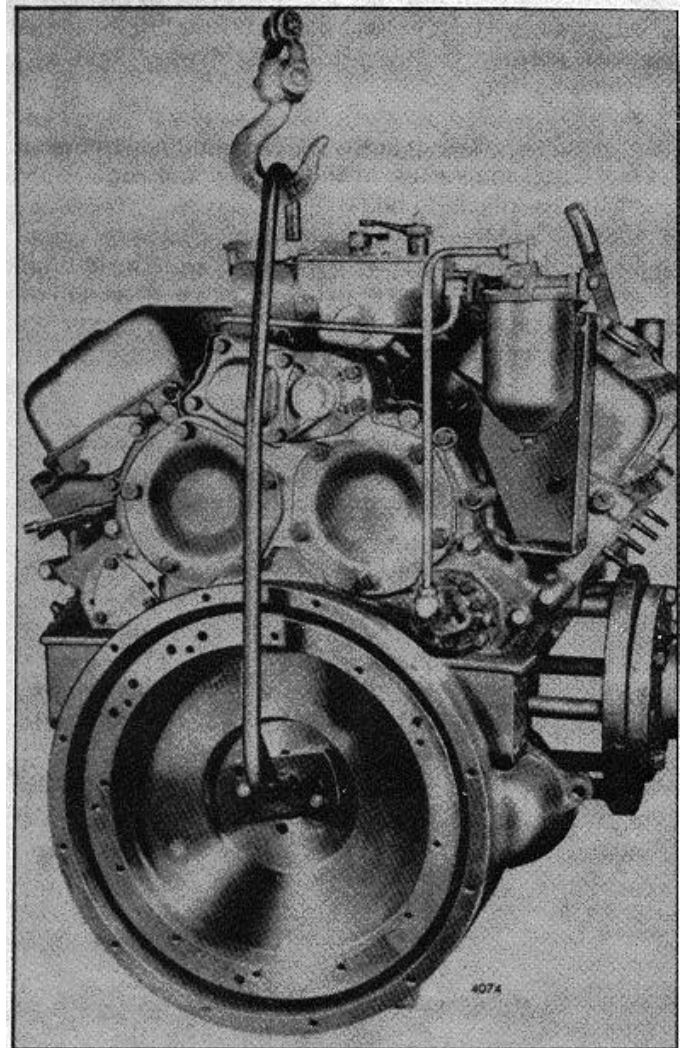

Fig. 1 - Removing Flywheel
- b. Attach flywheel lifting tool J 6361-01 to the flywheel with two 3/8" -16 bolts of suitable length as shown in Fig. 1.